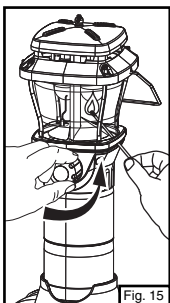

Fig. 15
■ Push lighted match through lighting hole, hold near mantle and open fuel valve fully. (Fig. 15)